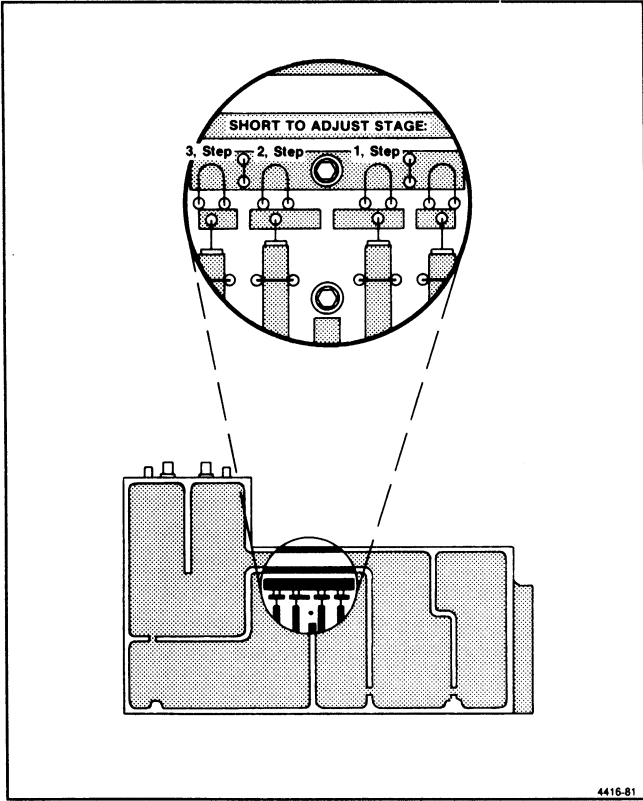

Figure 6-15. 829 MHz Converter filter tune tabs.
f. Adjust the 1/4 wavelength lines in the filter in sequence, starting with the resonator at the 829 MHz input (see Figure 6-15). Adjustment is made by shorting the adjacent resonator to ground with a low inductance conductor, such as a broad blade screwdriver, then bend the loop or tab of the respective stub with a non-metallic tuning tool to change the series capacitance of the resonator.